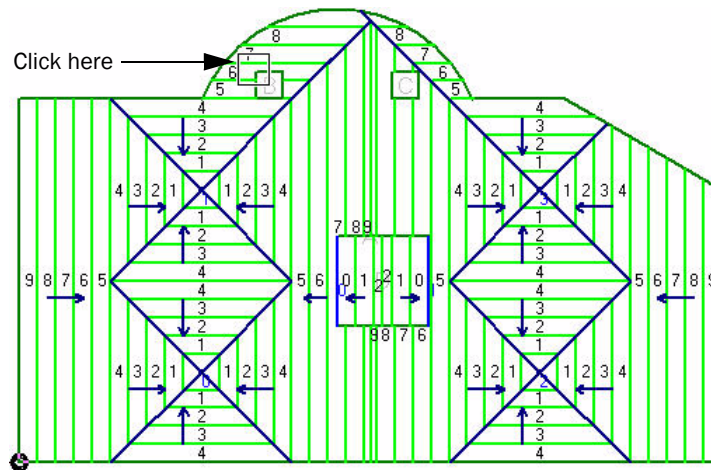

Figure 2-19 Selecting the first point of the long cricket
4. Place the mouse pointer on the top left corner of the first void, and click, as shown in Figure 2-19.